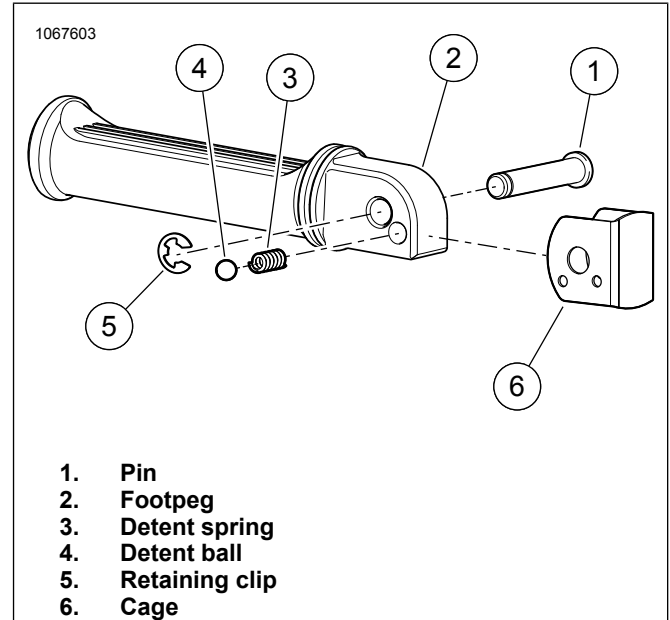

Figure 1. Passenger Footpeg Detent Ball Installation
1. See Figure 1. Your model motorcycle is equipped with a pin (1) and retaining clip (5). Remove them and retain for future use. Save all hardware, including detent spring (3), detent ball (4) and cage (6) for installation of the new footpegs (2).
See Figure 1. When performing the next step, verify that the spring (3) is positioned inside of the footpeg (2) and take care while removing and re-installing the cage (6).
2. Insert detent spring (3) into new footpeg (2), followed by detent ball (4). Position cage (6) on footpeg clevis edge while capturing the detent ball (4) and detent spring (3) inside cage (6) while sliding cage (6) onto footpeg clevis.
3. Align cage (6) and footpeg (2) with footpeg mount on vehicle.
4. Install pin (1) and retaining clip (5).